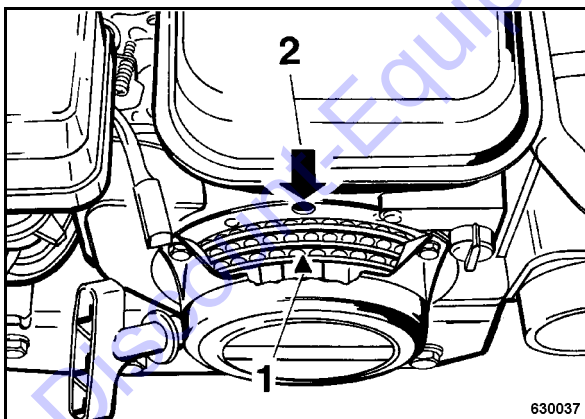

Fig. 71
- For this purpose align triangle mark (1) (Fig. 71) on the starter disc to the top bore (2).